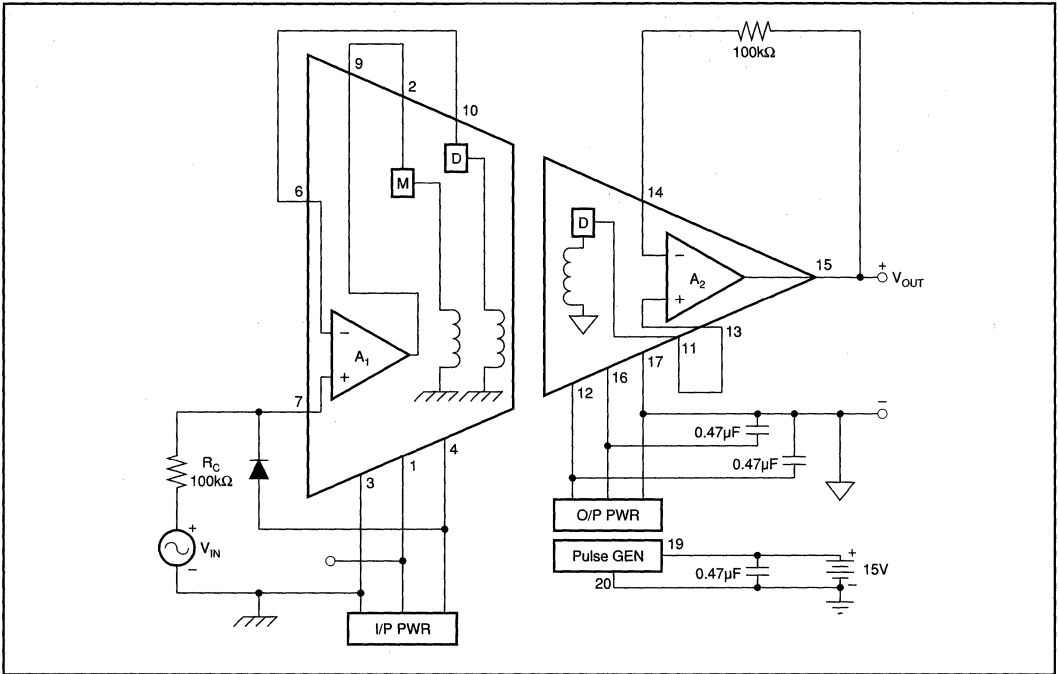

FIGURE 2. Power: Three-Port Isolation; Signal: Unity-Gain Noninverting.
- The input voltage at pin 7 (noninverting input to A_1) must not exceed the voltage at pin 4 (negative supply voltage for A_1) in order to prevent a possible lockup condition. A low leakage diode connected between pins 7 and 4, as shown in Figure 2, can be used to limit this input voltage swing.
NOTE: Figures 2, 3 and 4 are used to illustrate both signal and power connection configurations. In the circuits shown, the power and signal configurations are independent so that any power configuration could be used with any signal configuration.
The power supply connections in Figure 2 show the full three-port isolation configuration. The system has three separate grounds with no galvanic connections between them. The two external $0.47\mu\text{F}$ capacitors at pins 12 and 16 filter the rectified isolated voltage at the output stage. Filtering on the input stage is provided by internal capacitors. In this configuration continuous isolation voltage ratings are: 3500V between pins 3 and 17; 3500V between pins 3 and 19; 1000V between pins 17 and 19.
The signal path portion of Figure 2 shows the 3656 in its simplest gain configuration: unity gain noninverting. The two $100\text{k}\Omega$ resistors provide balanced resistances to the inverting and noninverting inputs of the amplifiers. The diode prevents latch up in case the input voltage goes more negative than the voltage at pin 4.